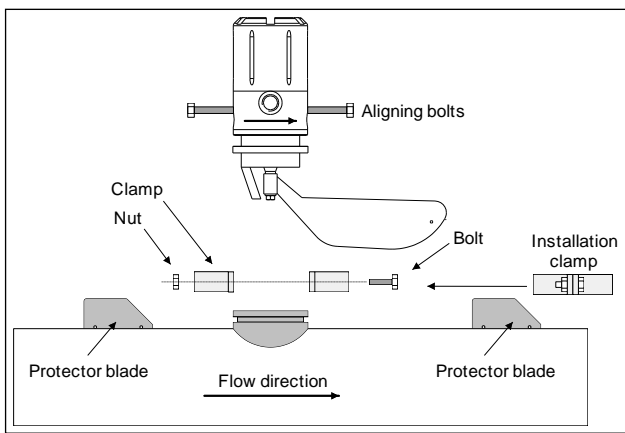

Figure 3. Installation of the sensor unit.
- Mount the sensor unit to the saddle with the enclosed clamp (fig. 3).
- Align the sensor blade exactly parallel to the pipe by using the alignment bolts included with the transmitter (fig. 3).